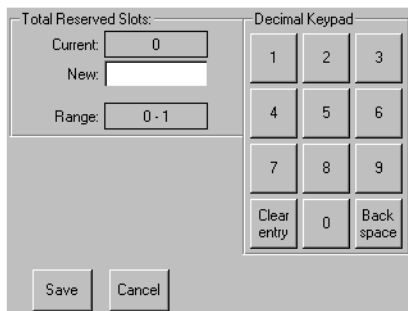

Figure 3-7. Reserved slots numeric keypad screen
3. Press the associated box next to the Total Reserved Slots option. A numeric keypad appears on the display (see Figure 3-7).